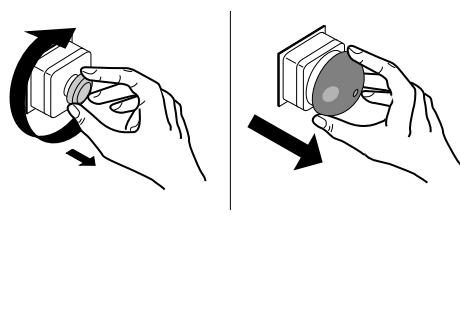

Figure 29 Release the emergency stop button
- Pull out the emergency stop button or turn it clockwise. See Figure 29.